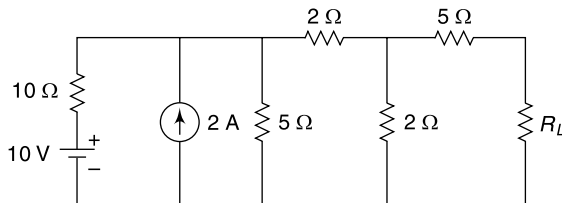

Fig. 4.115 Circuit of Ex. 4.84
4.84 Obtain the maximum power transferred to R_L in the circuit of Fig. 4.115 and also the value of R_L .